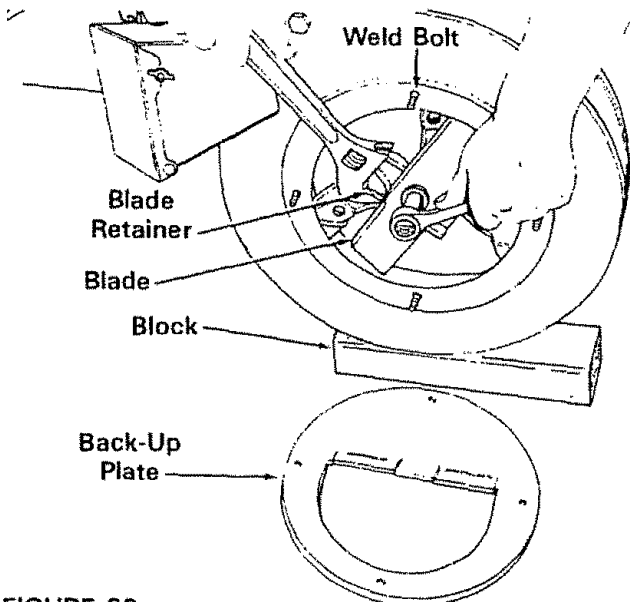

FIGURE 20.
2. Block up the housing. See figure 20.
4. Remove the back-up plate. See figure 20
5. Hold the blade retainer on the impeller assembly with an adjustable wrench to keep the blade from turning as shown in figure 20.